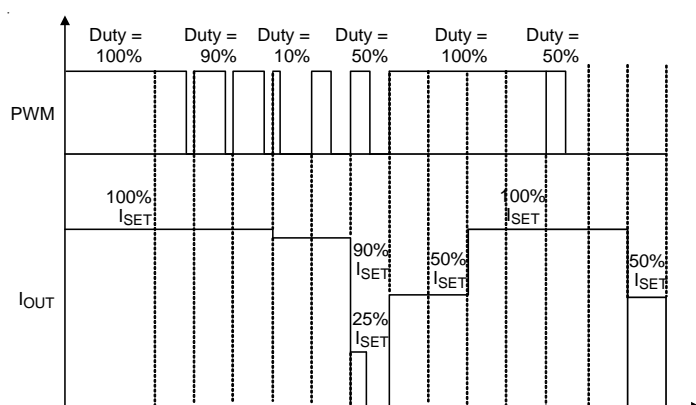

Figure 5. LED Current Control Using Mixed Dimming Mode (MIX = Floating)
**Mixed Mode Dimming :** If the MIX pin is set to float, the dimming mode operates in Mixed Mode (Figure 5). In this mode, the PWM and  $I_{OUT}$  dimming cycle will delay by two periods. First cycle delay is required for the period, while the second cycle delay is for the duty rate calculation.